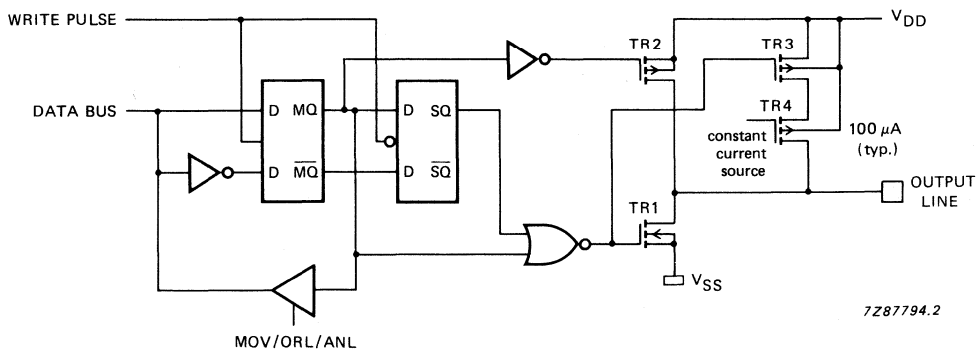

Fig. 14 Push-pull output.
3. **PUSH-PULL OUTPUT:** with  $V_{DD} = 5\text{ V}$ , the output can sink and source 1,6 mA (min.). To avoid a large current flowing through the output transistors, these push-pull pins must only be used as outputs (Fig. 14).